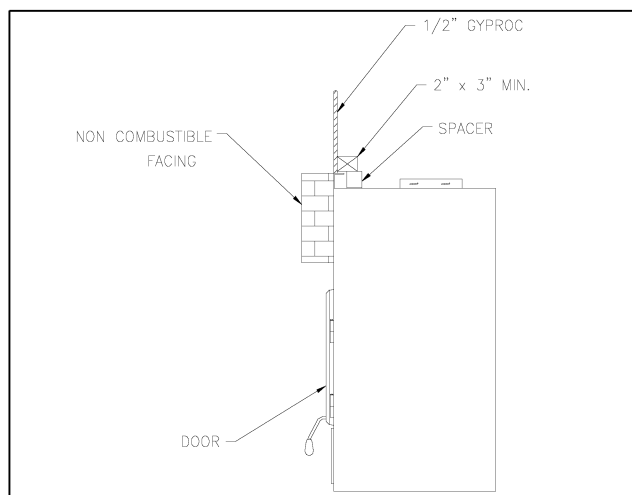

Figure 13
2. Non-combustible materials such as brick, stone or ceramic tile may project in front of and onto the fireplace facing (figure 13).